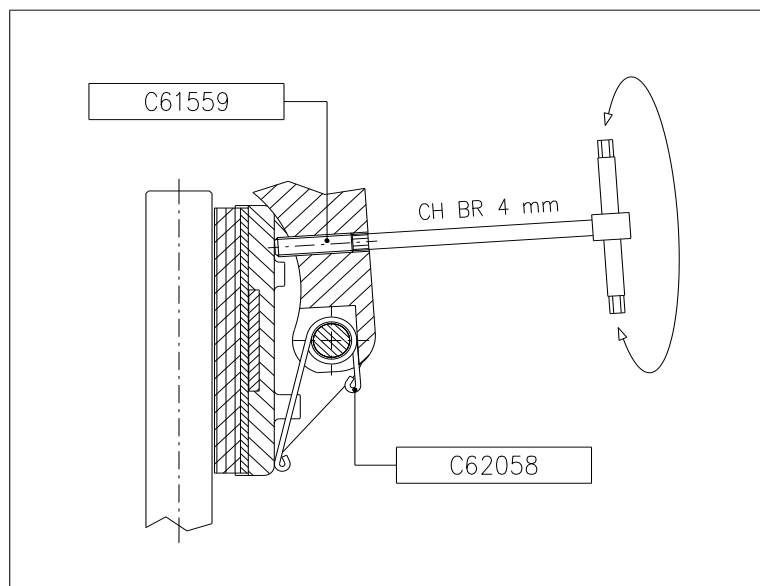

Figure 2
- Adjust the brake shoes using the grub screw C61559 C61723 rotating it in the appropriate direction with a n. 4 Allen key; the friction surface of the brake linings must be parallel to the surface of the disc (Figure 2).
6. Reassemble the shoe following the sequence in point 2 in reverse order, positioning the shoe alignment spring C61903 as indicated in Figure 2.
3. Remove the shoe alignment spring C62058 from its seat and replace it with a new one positioning it as shown in Figure 2.